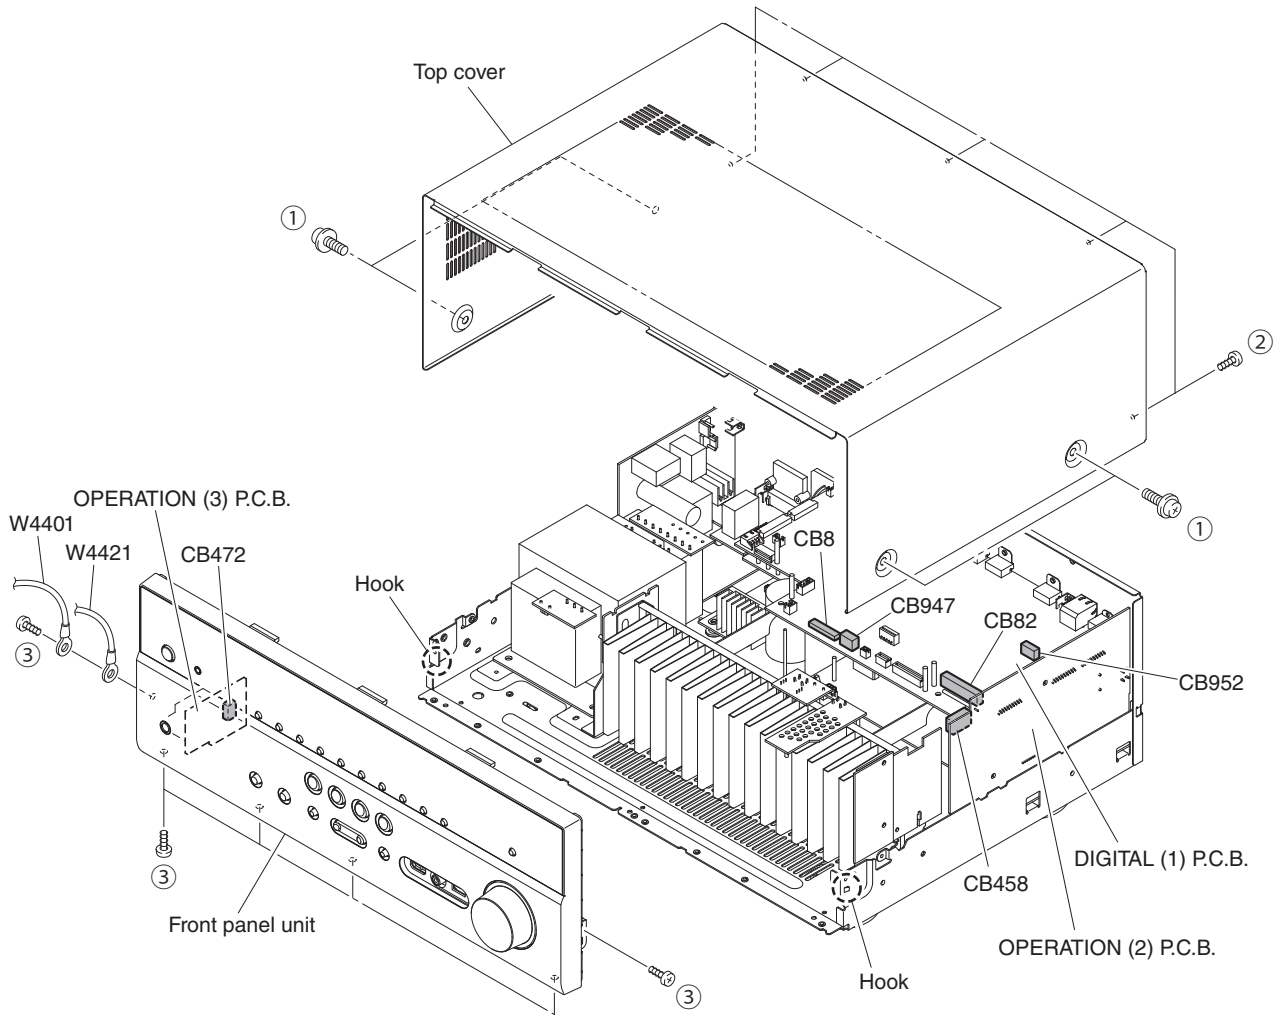

Fig. 1
- a. Remove 4 screws (①) and 5 screws (②). (Fig. 1)
- b. Lift the rear of the top cover to remove it. (Fig. 1)
- a. Remove 6 screws (③), and remove W4401 and W4421. (Fig. 1)
- b. Remove CB8, CB82, CB458, CB472, CB947 and CB952. (Fig. 1)
- c. Release 2 hooks, and remove the front panel unit. (Fig. 1)